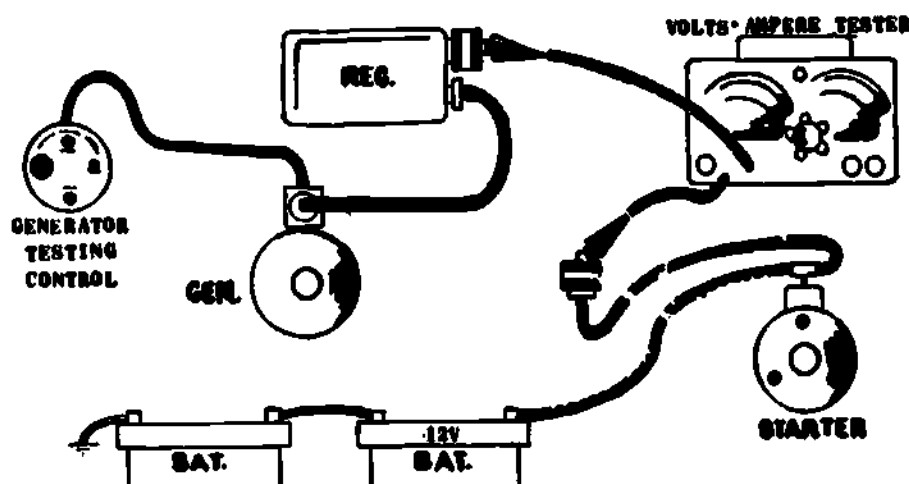

Fig 1-19. Generator output test connections.
5. Output test (fig 1-19). This is a load test to check generator output and drive belt slippage. The generator is operated at its rated capacity and the engine rpm is observed. The rated output should be obtained at or below specified engine rpm. When making this test be careful not to exceed generator output as indicated on the data plate or in the TM.